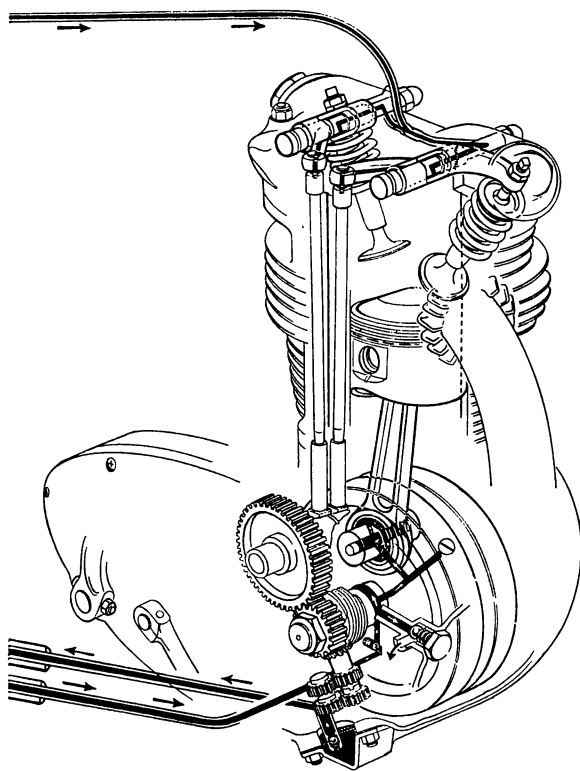

Fig. 10-9 Push rod overhead valve (Triumph Norton Incorporated)
**Pushrod Overhead Valve.** Activated by pushrods coming up from a case-mounted camshaft, the rocker arms of this type of cylinder head act upon the valves, opening them at the proper time (Fig. 10-9).